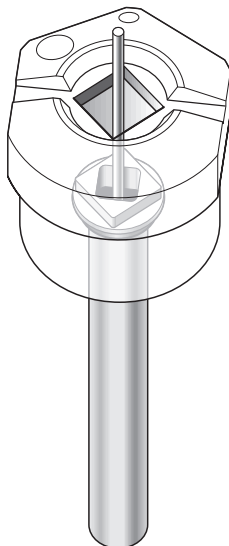

Fig. 11 – Poppet Bearing Installation
11. Place the poppet bearing(10) over the pin of the extraction tool with the square feature facing up. Guide the pin of the tool into the open end of the valve insert(11) and out through the square hole in its center. While sighting through the top of the valve insert, rotate the tool as needed to align the square feature of the poppet bearing with the square hole, and press the tool upward to seat the bearing securely in place (see Fig. 11). When finished, check to ensure that the top of the poppet bearing is flush with the top of the valve insert.
12. Press the new LP seat(14) into the cavity in the head of the poppet(13), with the smooth side facing out.
13. Stand the poppet on its head inside the top of the inlet fitting, and place the spring(12) over the poppet shaft.